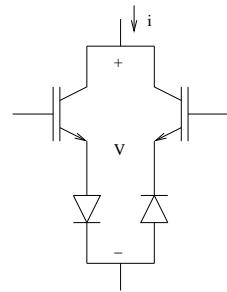

Figure 5.13: Combine Elements 3
3. Block positive and negative  $V$  and carry positive and negative  $i$  (see Figure 5.13).